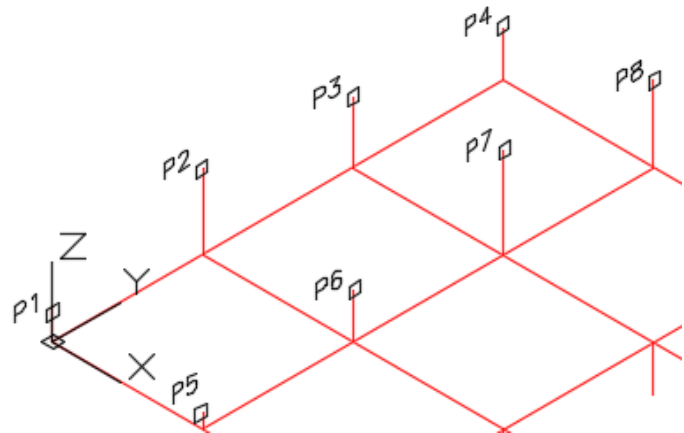

Figure Step 5
Step 5 Set layer: 3D Pline as the current layer. Enter the 3DPOLY command, as shown below, to draw 3D polylines between all of the Z coordinates on the grid in both the X and the Y direction. (Figure Step 5)